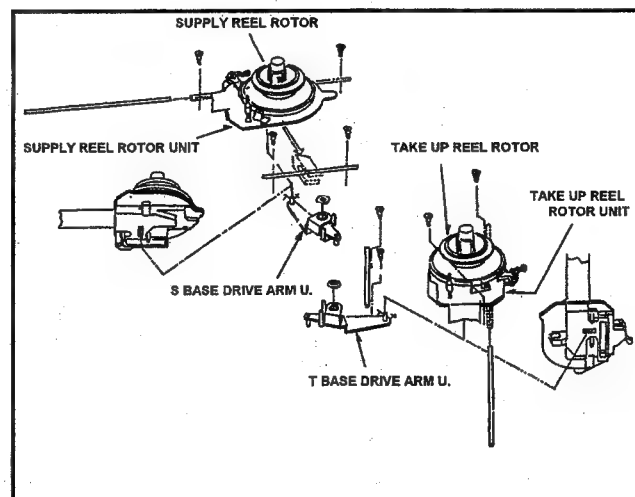

Fig. 6-3-3 Installation of S & T Reel Rotor Unit
2. Hang on the Reel Rotor Unit to the Reel Inner Rail and Install the Reel Rotor Unit so that the pin of Drive Arm Unit is matched with the groove position of Reel Base as shown in Figure 6-3-3.
3. Install the 4 screws (C), (D) and (E).
7. Adjust the height of Cassette Height Pin (Refer to item 5-2).
9. Adjust the Motor Torque Offset value (Refer to item 1-1 of section 4).
10. Confirm Main Brake Torque (Refer to item 5-4).
11. Confirm Tension value on playback mode (Refer to item 5-16).